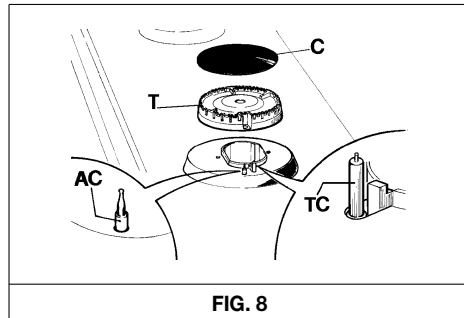

FIG. 8
Periodically wash the hot plate, the enamelled steel pan support, the enamelled burner caps "C" and the burner heads "T" (see fig. 8) with lukewarm soapy water. Following this, all parts should be thoroughly rinsed and dried. Never wash them while they are still warm and never use abrasive powders. Do not allow vinegar, coffee, milk, salted water, lemon or tomato juice from remaining in contact with the enamelled surfaces for long periods of time.
- Check that burner head slots "T" (fig. 8) have not become clogged by foreign bodies.
- Check that enamelled burner cap "C" (fig. 8) have correctly positioned on the burner head. It must be steady.